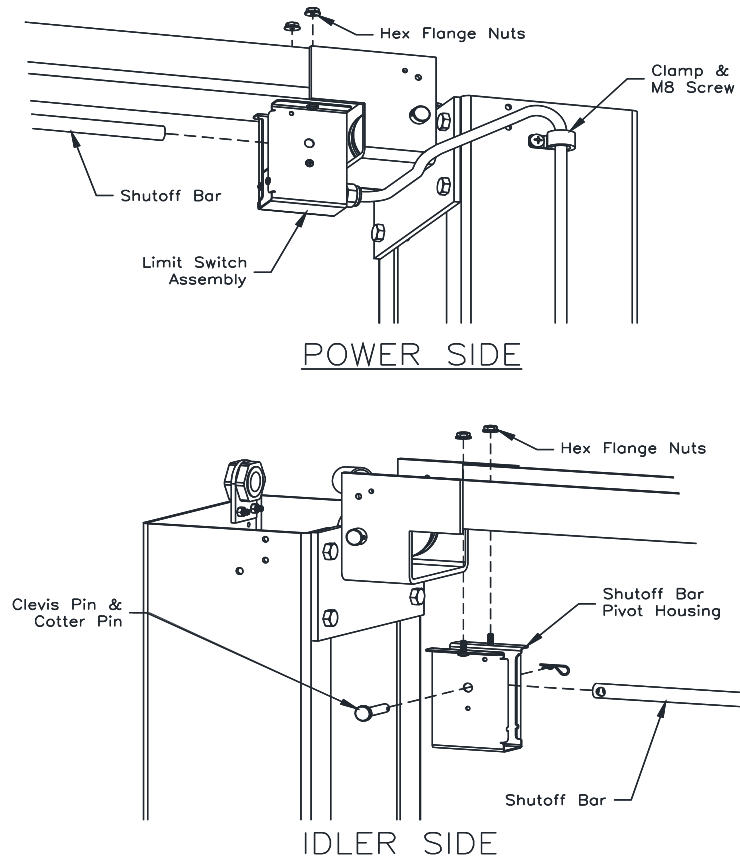

**Fig. 3 – Column Shimming**
- 8) Shim both columns to plumb using the shims provided as shown in **Fig 3**. DO NOT shim more than 1/2" at any given point. Use a level no less than 24" in length to plumb columns.
- 13) Check idler column shimming. Use additional shims (**see Fig 3**) to remove any gaps that may have been created while installing overhead beam. Tighten anchor bolts and re-check column for plumb. Torque to 150 foot-pounds.